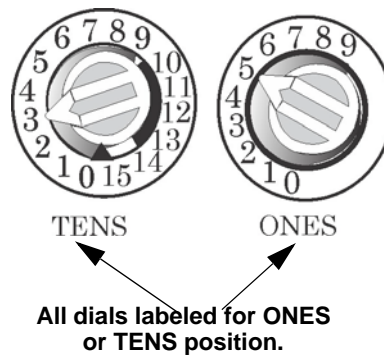

Figure 7-4 SK SLC Device Addressing Using Rotary Dials
**Example 1:** To select device address 35, turn the *ONES* rotary dial to **5** and the *TENS* rotary dial to **3** as shown in Figure 7-4.